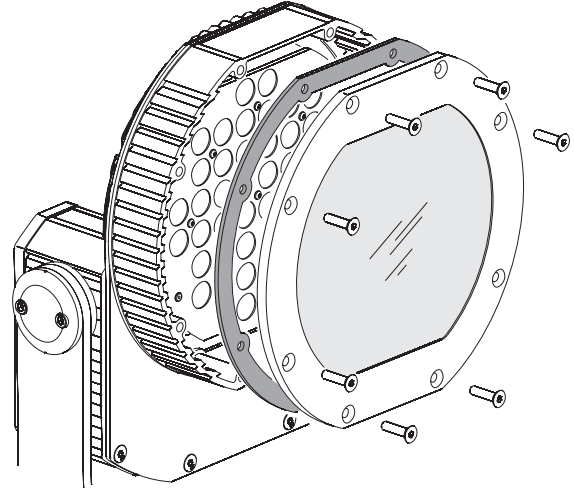

Figure 17: Front cover screws and seal
2. See Figure 17. Remove the front cover screws and front cover with its seal.